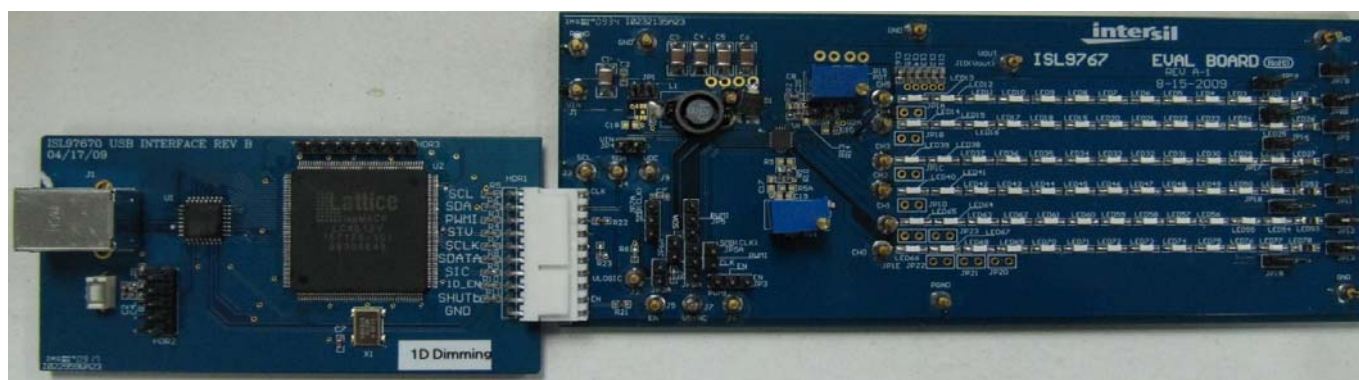

FIGURE 4. I²C INTERFACE BOARD CONNECTED TO ISL97671/2/3/4IRZ-EVAL EVALUATION BOARD
4. Connect the I²C interface board to the ISL97671/2/3/4IRZ-EVAL Evaluation Board as shown in Figure 4.